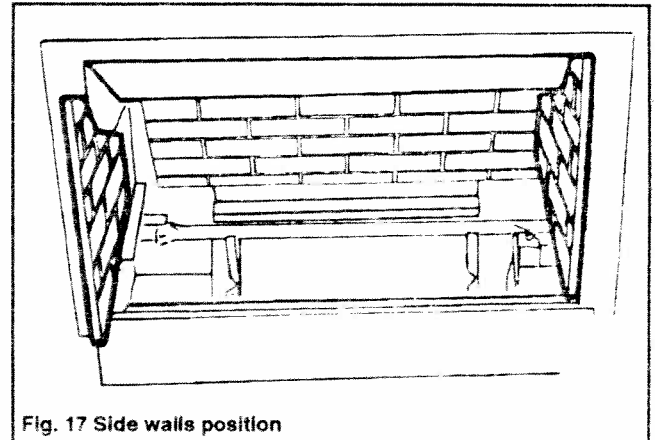

Fig. 17 Side walls position
15.2 Place the ceramic side walls in position at the sides of the firebox. The sides are left and right handed. The sides should locate in the sloping channels near the bottom of the firebox sides and in the gap between each side of the firebox and the black top baffle (see figure 17).